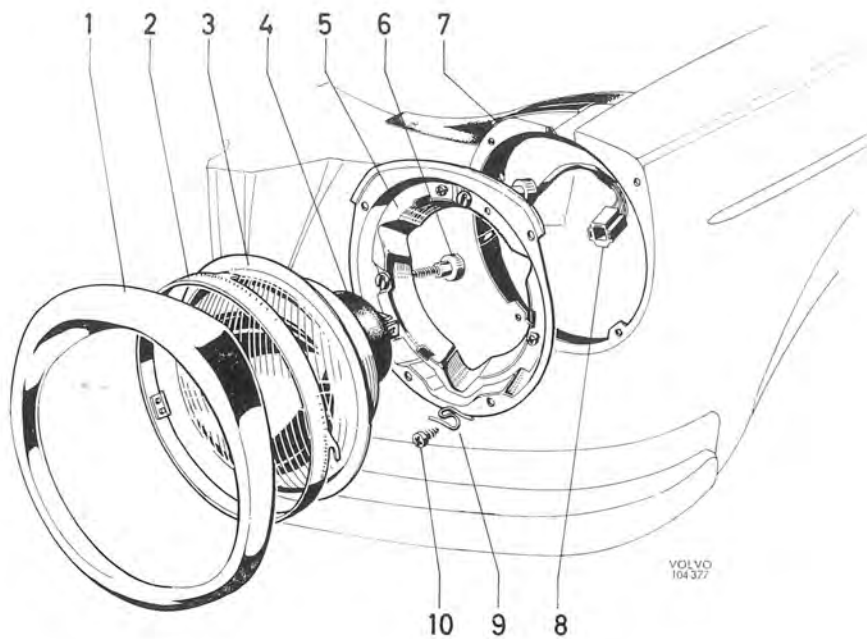

Fig. 3-72. Headlight
7. Adjust the light according to current legislation. Adjustment is made by means of the two adjusting screws, see Fig. 3-72. Use approved light adjusting equipment.
6. Check the lighting adjustment. This is done by the two adjusting screws, see Fig. 3-72.
Adjustment is made by varying the two adjusting screws behind the headlight, see Fig. 3-72. The upper screw adjusts the headlight vertically and the screw at the side adjusts the headlight laterally.